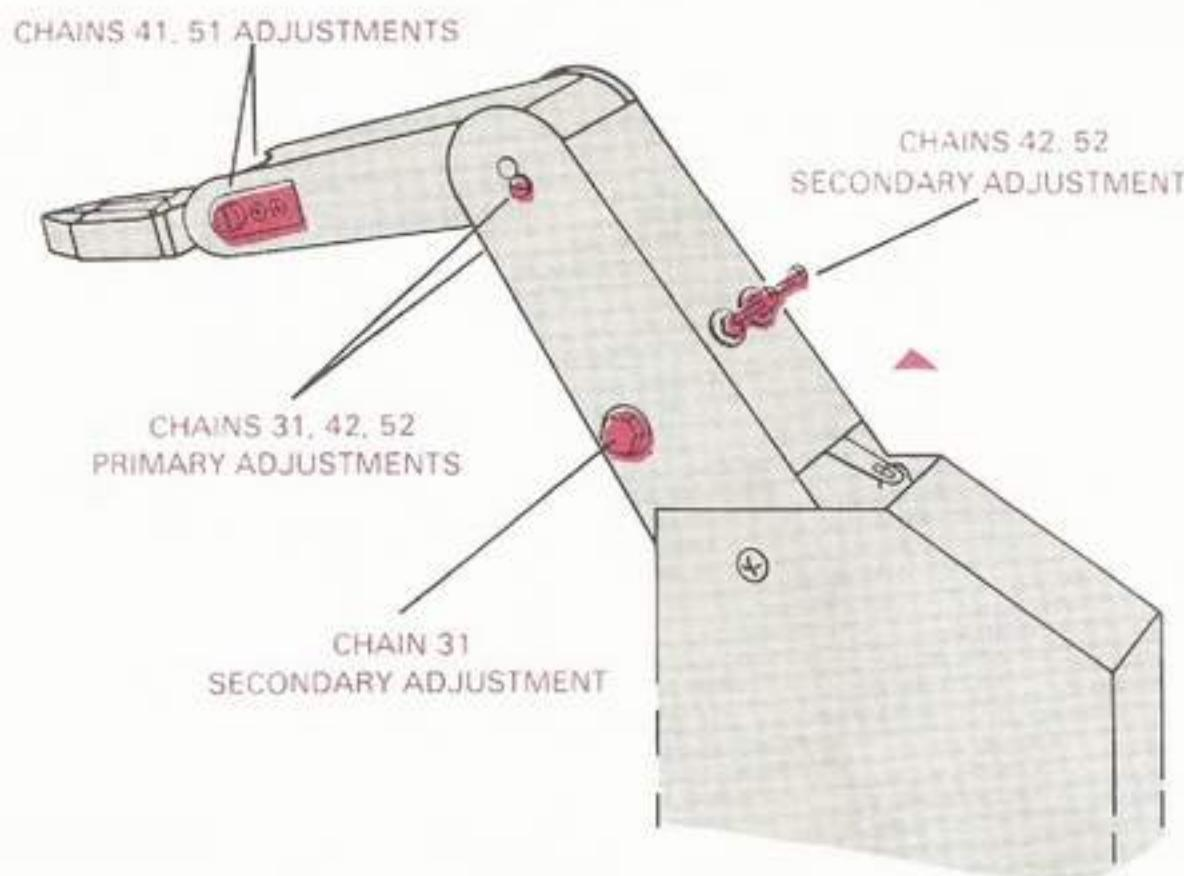

Fig. 94: Adjusting the Chains
- _____ a. Loosen the two small Phillips-head screws located on the side of the elbow, as shown in Fig. 94.
- _____ a. Loosen the large screws located on both sides of the elbow-shoulder joint. Refer to Fig. 94.
- _____ d. If chains 42 or 52 are still not taut, loosen the nuts on the two adjustment screws located at the top of the shoulder (see Fig. 94). Next, adjust the screws until the chains are taut, and then retighten the nuts.
- _____ e. If chain 31 is still not taut, loosen the large adjuster nut located on the right side of the shoulder (see Fig. 94). Next, tighten the chain by moving the adjuster sprocket, and then retighten the nut.